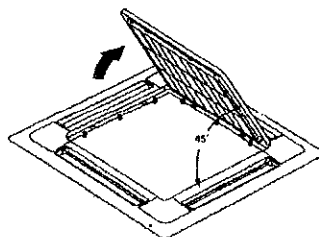

Fig.2
(2) Detach the suction grille from the decoration panel by lifting the grille up approximately 45 degrees. (Refer to Fig.2)